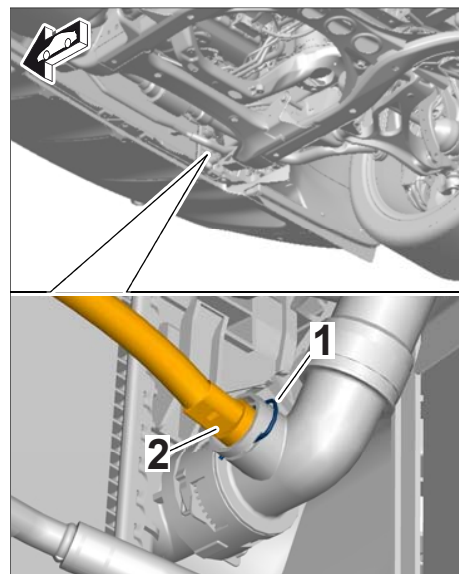

Figure 1
- 6.1 Pull off retaining clip ⇒ *Figure 1 -1-* for the temperature sensor ⇒ *Figure 1 -2-* using a pliers. Hold the temperature sensor firmly while doing this to prevent it from slipping out of the coolant hose connecting piece.
- 6.2 **Fit new** retaining clip ⇒ *Figure 1 -1-*, Part No. **000.043.207.93**, on the temperature sensor ⇒ *Figure 1 -2-*.